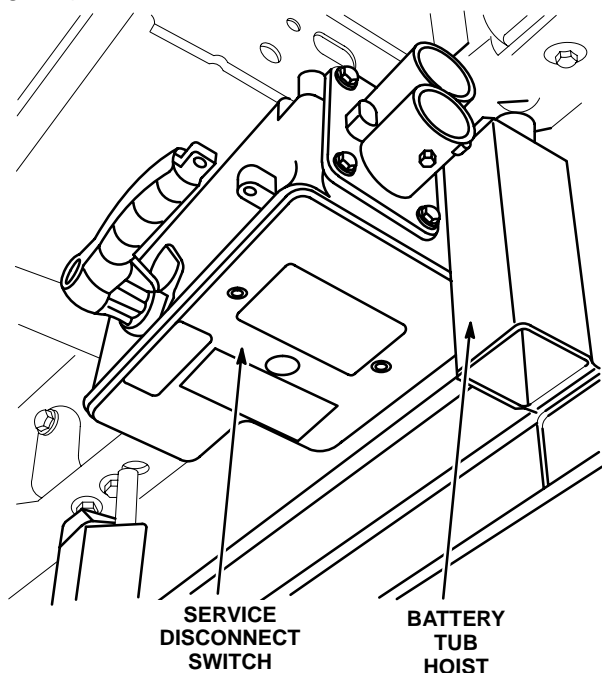

Fig. 19 Lifting Device and Service Disconnect
(13) Position drain pan two to three feet below left side hose. Remove excess coolant by applying regulated air pressure starting at 0 psi and slowly increasing pressure to 5 psi maximum air pressure to the right side tub fitting until coolant stops draining from left side fitting.
(14) Remove regulator, cap both hoses, and rotate hoses to point upward.
(15) Remove center bolts (4) attaching battery tub to frame bracket.
(16) Setup lifting device under battery tub being careful not to damage the service disconnect (Fig. 19).